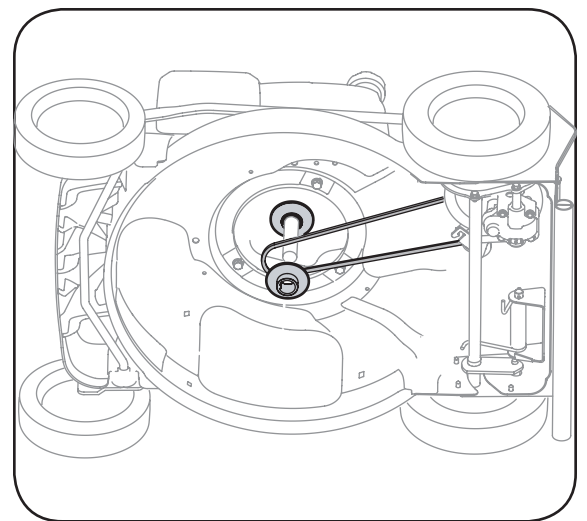

Figure 5-9: Place upper pulley on crankshaft, loop belt around crankshaft, then install the lower pulley.
18. Place the belt between the two pulley halves on the crankshaft. See Figure 5-9.